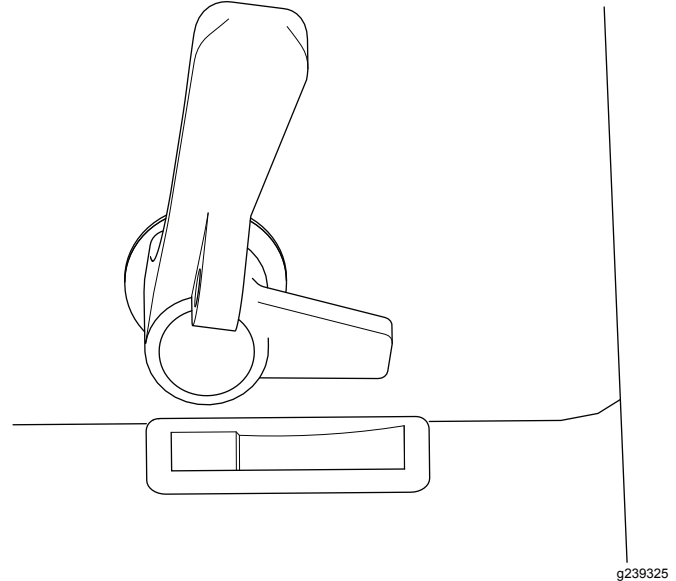

Figure 9
1. Rotate the handles counterclockwise and push the window open (Figure 9).